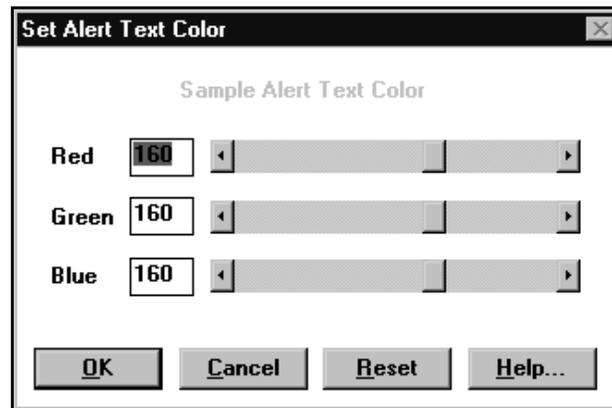

FIGURE 75. Set Alert Text Color dialog box
6. To set alert text color, select the Set Alert Text Color button. (See Figure 75.)